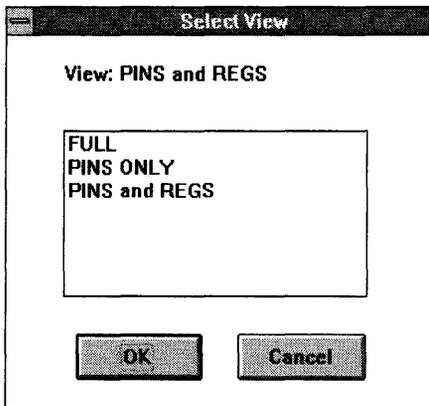

Figure 6-17 Select View Dialog Box
*Select View* brings up the *Select View* dialog box (Figure 6-17). The *View* line gives the name of the current view. To change the current view, select the desired view from the list, then click *OK* or type a carriage return. Clicking *Cancel* closes the *Select View* dialog box without affecting the active view.